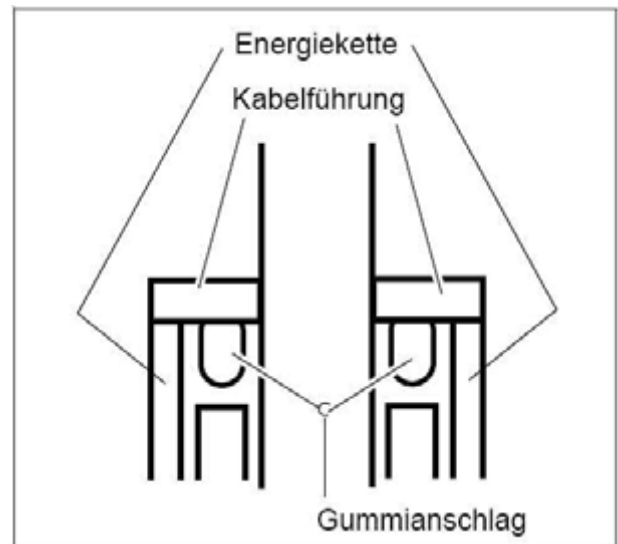

Fig. 34: Rubber end stop
- Move the O drive to the mechanical end stop, passing the 30° position, in unregulated mode so that the rubber end stops are against the mechanical end stop ((Fig. 34 / p. 64)).